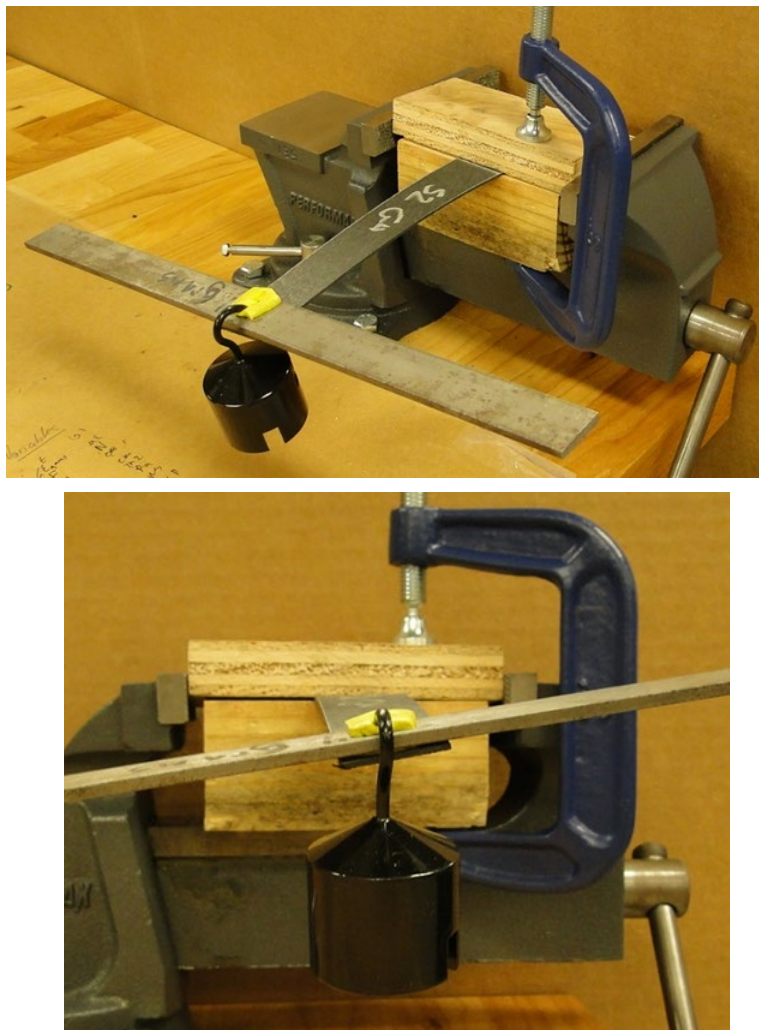
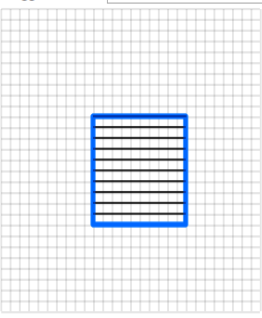

Figure 1. Laminate test assembly (top) demonstrating twist at the end of sample strip (bottom)
Figure 2. The graphical user interface of the online laminate calculator
As described in the lecture, the task for your group in this lab is to design the layup of a fiber-reinforced laminate that has specific behavior under load. The supplemental class web site has an online composite “calculator” for you to accomplish this design process (https://thermal.cnde.iastate.edu/aere322/webdeform/webdeform_laminate.html). The accompanied user manual *Laminate Calculator user guide.pdf* can be found in *Misc* module in Canvas. The objective is to design the layup of an 8-ply fiber-reinforced laminate sheet so that a strip cut off from the laminate sheet will produce maximum twist at the end of the strip when subjected to a bending moment. The actual assembly of a 6"x1" cantilever strip is shown in Fig. 1 in which the horizontal metal bar placed at the end
- (1) Review the classical laminate theory described in the lecture notes. Determine what are the key parameters and how to fine tune them to maximize the twist angle. Note that there is no unique answer to this task. Given the fact that you were just exposed to this subject, it will be hard for you to do so anyway. Rather, the learning process of designing the layup itself is the objective of this lab!
- (2) The online calculator can be accessed from the main page of the supplemental class web site on the left panel under “Interactive Laminate Calculator”. Also from the left panel under “Notes and Assignments” you can find “LaminateCalculator user guide.pdf” in the rightmost “Misc Documents” column.
- (3) You will notice that most inputs to the online calculator have been pre-filled for you. Those inputs, e.g. material properties, are good approximations for some common materials which you don’t need to change. To begin, you just modify the layer thickness (t_{layer} under Laminate tab on the left side panel) to 150 μm , and zero out any applied stress in x direction, σ_x , on the right side panel.
- (4) Apply a nominal bending moment (say $M_x = 1 \text{ N-m/m}$) and calculate the curvatures/twists as shown in Fig. 2 in the encircled kappa column. The three components from top to bottom in the kappa column corresponds to the bending curvatures κ_x and κ_y and twist curvature κ_{xy} described on page 20 of the lecture notes. It is the twist curvature κ_{xy} controls the twist at the end of the laminate strip in the “virtual test” you will be conducting (Fig. 1).
- (5) Play with your layup design and see how it affects these curvatures, particularly κ_{xy} . Since your objective is to maximize the twist at the end of the strip, should you “randomize” your laminate angles in layup (more of [0, 90, 45, -45, ...]) or “regularize” it (more of [45, 45, 45, 45, ...])? Since the laminate is symmetric, you only need to enter half (i.e. four) of the layup entries (in layup under Laminate tab on the left panel). Don’t be confused by the deformation plot provided in the online calculator (shown in blue frame on the lower right corner of Fig. 2). Please note that the plot only shows the top view of the strip, and does not show the side view of the twist of the strip.
- (6) (20%) Show that the coupling stiffness matrix B (defined on page 22 in lecture notes) vanishes for your symmetric laminate layup. For this, you may need to study materials on pages 6 and 21-24.
- (7) (10%) Of the A-B-B-D or a-b-c-d matrices shown on pages 22-24 of lecture notes, which component(s) affect the twist curvature κ_{xy} under the loading condition? Show how you identify the component(s).
- (8) (70%) In at least 5 design cycles, show how to reach your final largest twist curvature κ_{xy} and thus the largest twist angle at the end of the laminate strip. Included in each cycle are: